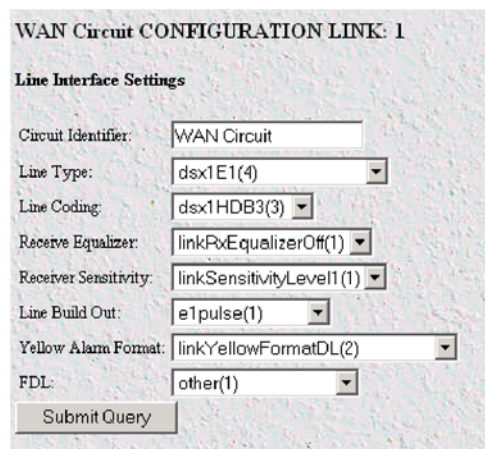

Figure 36. WAN Circuit Configuration page, Line Interface Settings
- Click the *Configuration...* hyperlink then click the *Modify Configuration...* hyperlink to open the WAN Circuit CONFIGURATION LINK window (see figure 36) and view the *Line Interface Settings*.